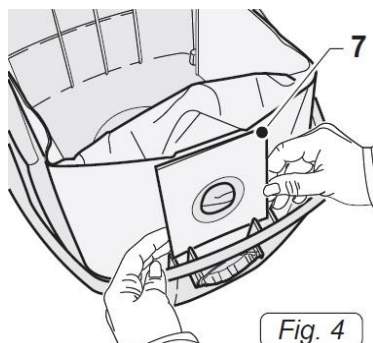

Fig. 4
4. Remove filter bag by pulling the cardboard (7 Fig.4) out of the slots and dispose of it.
5. Place new filter bag by pressing the cardboard (7 Fig.4) into the designated slots.